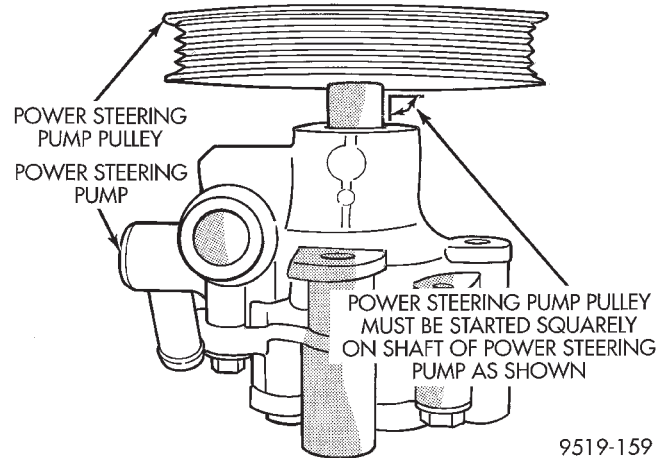

Fig. 28 Pulley Positioned On Shaft Of Power Steering Pump
(1) Mount power steering pump in a vise using the power steering pump mounting bracket.
(2) Place power steering pump pulley squarely on end of power steering pump shaft (Fig. 28).